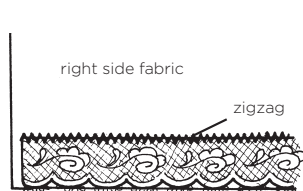

Figure 1
**1.** Pin the lace to the right side of fabric with the heading even with the seam allowance line and the right side of the lace facing up. Using a small zigzag (L=1.0; W=1.5) and a size 70 universal needle, stitch the heading to the fabric (**fig. 1**).